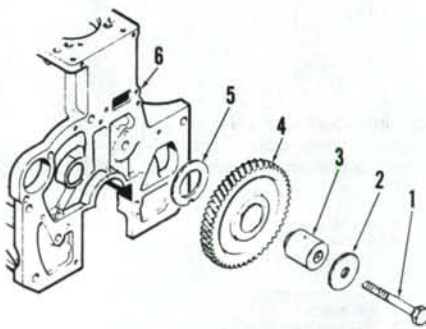

Fig. 52—Injection pump idler gear shown removed from engine block.
54. IDLER GEARS. Idler drive gear is removed with camshaft gear as outlined in paragraph 52. Timing idler gear (4—Fig. 52) can be removed after removing timing gear cover as outlined in paragraph 50. It must be removed before removing camshaft as in paragraph 55 or crankshaft timing gear as in paragraph 53.